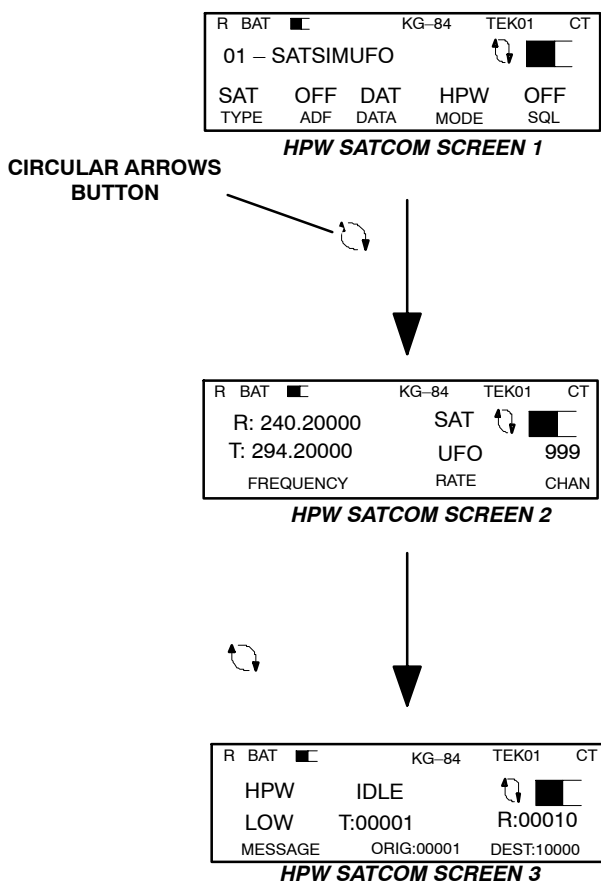

Figure 17. HPW SATCOM Operational Displays
See Figure 17 for sample screen. HPW SATCOM is a data only mode for communication over SATCOM channels with greatly increased data throughput. It combines features of both MIL-STD-188-181B and Mil-STD-188-184 to permit error free data communications at high Over-The-Air (OTA) burst data rates. HPW also supports Internet Protocol (IP) data.